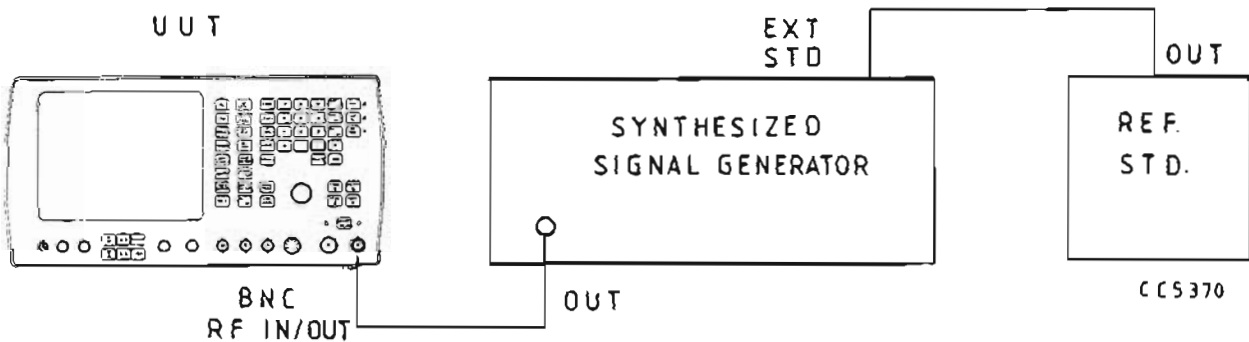

Fig. 13 Test equipment connections for adjusting R39 on AC1
- (1) Connect the equipment as shown in Fig. 13, but ensure that the external reference standard has an accuracy better than ± 5 parts in 10^{10} .